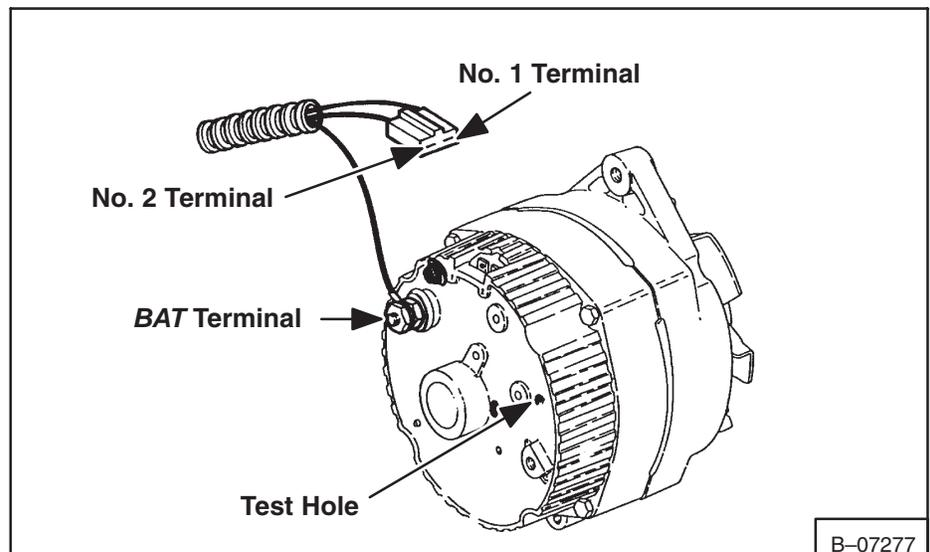

Fig. 6-9 Terminal Location For The Alternator
2. Connect the voltmeter between the ground and the No. 1 terminal (Fig. 6-9). Check for 12 volts.
3. Connect the voltmeter between the ground and the No. 2 terminal (Fig. 6-9). Check for 12 volts.
4. Connect the voltmeter between the ground and the BA T terminal (Fig. 6-9). Check for 12 volts.